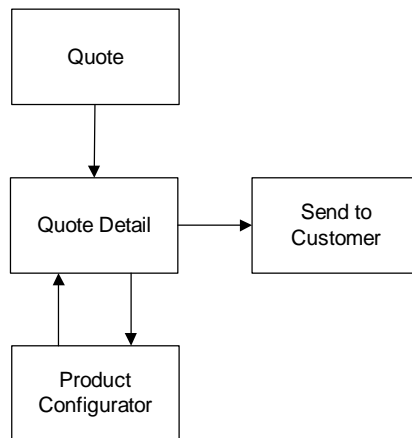

Figure 1-2. Process Flow
- 5 Using this information, the Configurator application can update its user interface and interact with the user. The diagram in Figure 1-2 is a simplified illustration of this process.